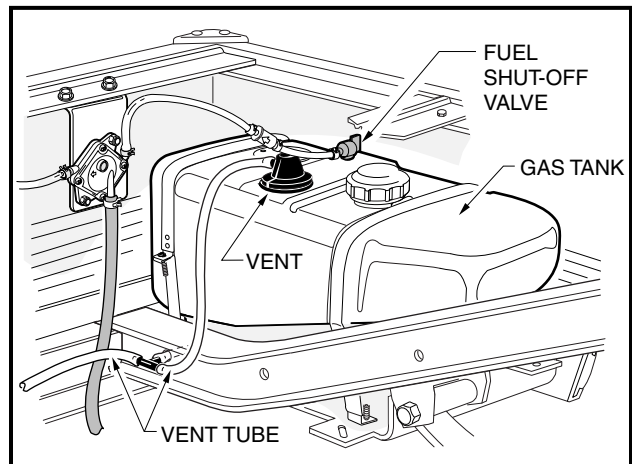

FIGURE 30
- **IF THE VEHICLE HAS AN ALL-WEATHER ENCLOSURE INSTALLED, THE GAS TANK MUST BE PROPERLY VENTED AS SHOWN (FIGURE 30).**